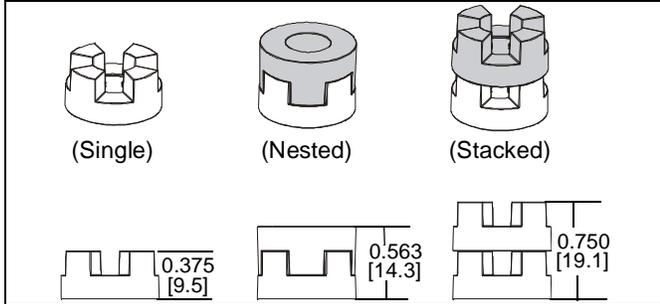

Figure 17
NOTE: The nesting spacers (M) may be used separately, or put two together in different configurations to create different size spacers. (See Figure 17)